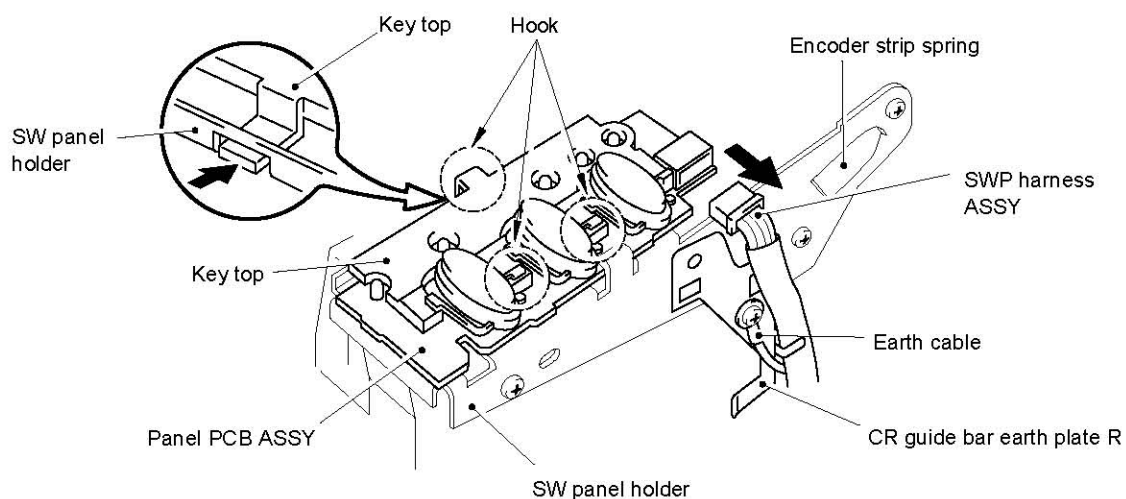

Fig. 4.18
- (1) Remove the Encoder strip from the Encoder strip spring. (Refer to section 4.10 Encoder strip.)
- (2) Remove the screw securing the earth cable. (Refer to fig. 4.18)
- (3) Remove the two screws and remove the SW panel holder from the two bosses on the Main frame ASSY.
- (4) Remove the CR guide bar earth plate R from the SW panel holder.